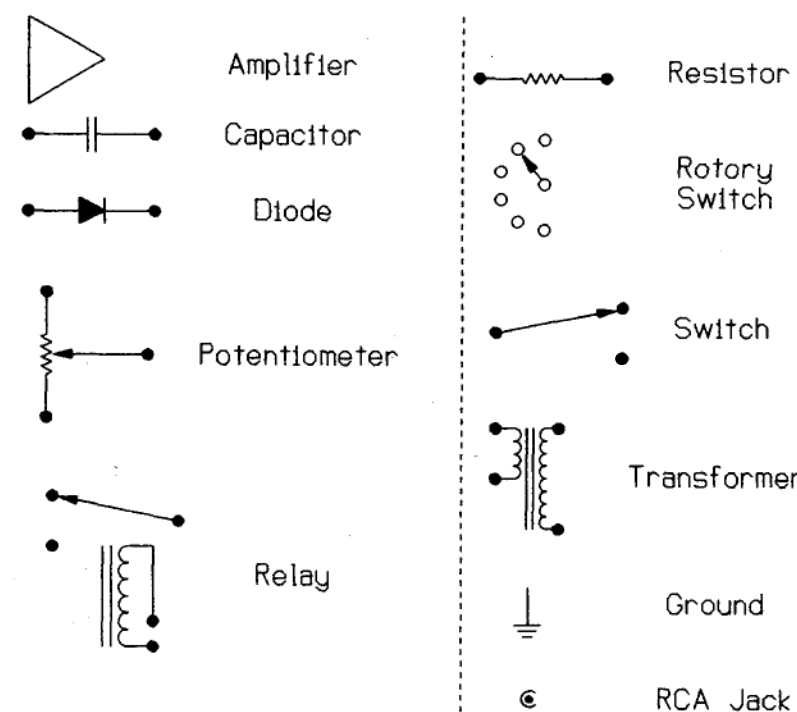
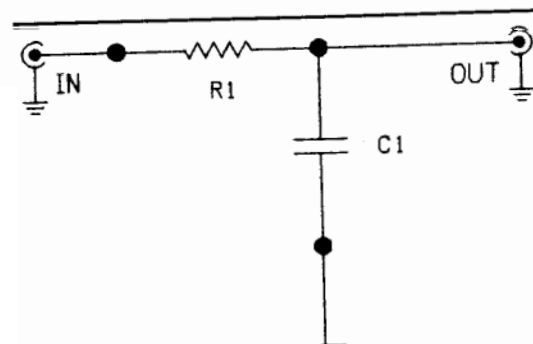
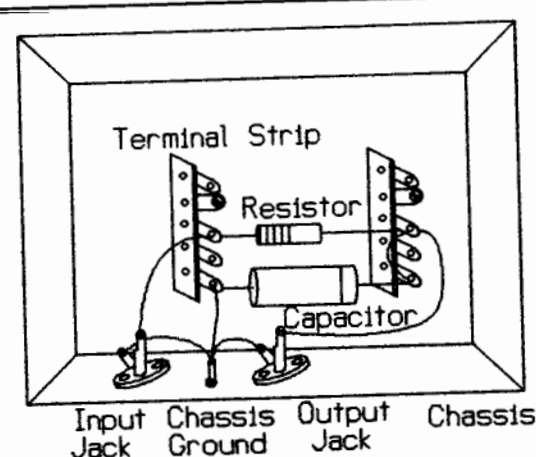

FIGURE 8-1: Symbols for electronic parts.
FIGURE 8-2: Sample of a simple schematic diagram.
FIGURE 8-3: Components in position and connected based on schematic in Fig. 8-2.
**SCHEMATIC DIAGRAMS.** Schematics are simply maps showing how electrical parts connect to each other. Symbols represent the components. Figure 8-1 shows some common symbols. I've shown a simple schematic diagram in Fig. 8-2. In Fig. 8-3, I've drawn components and connected them together as shown in the schematic.